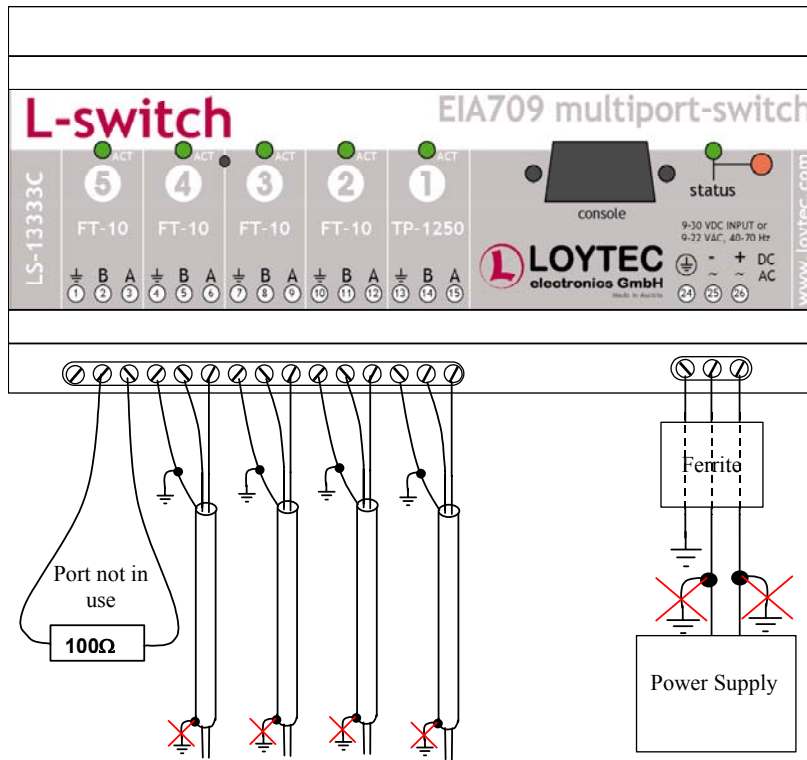

Figure 4: Connecting the L-Switch (LS-13333C)
**Important:** *All Earth ground terminals must be connected to the main Earth ground terminal 24 (LS-xxxxxC and LS-xxxxxCB) or terminal 15 (LS-xxC and LS-xxCB). When using shielded network cables only one side of the cable should be connected to ground. Thus, the shield must be connected to earth ground either at the L-Switch terminals or somewhere else in the network, but never at more than one place (see Figure 4)!*
Figure 4 shows an L-Switch where Port 5 is not used.